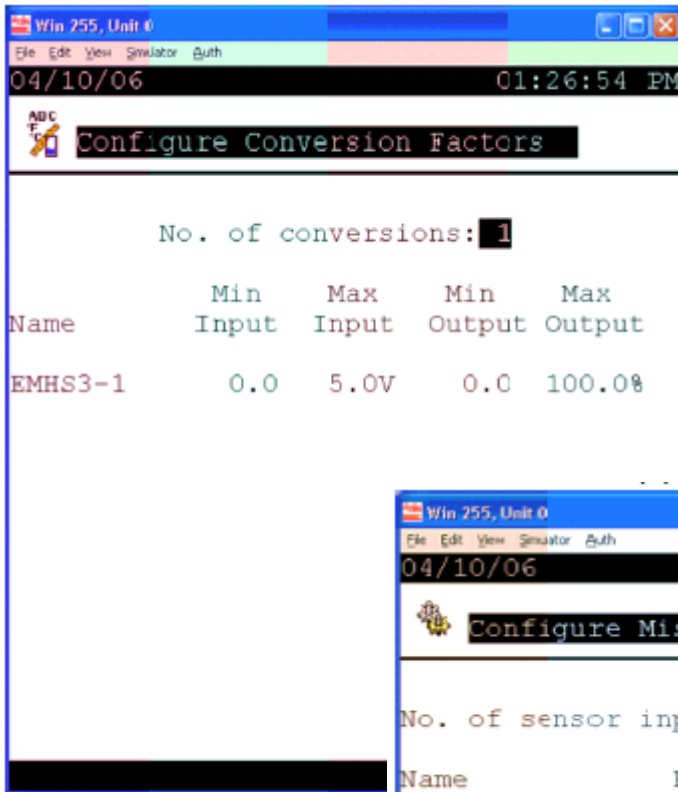

Fig. 1
1. Go to misc. Configuration and setup a conversion factor. Set the min input to 0v, the max input to 5.0V, the min output to 0% and the max output to 100.0%. Name the conversion "emhs3-1" (see fig. 1 For details)